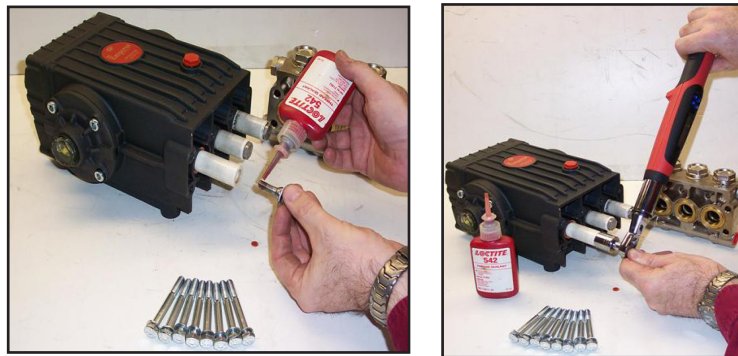

Figure 5-10. Install O-ring, Apply Sealant and Slide Plunger over Plunger Guide
18. Install new Teflon® back-up ring and O-ring on the plunger bolt. Apply a film of O-ring grease on the outside of the O-ring (see Figure 5-10).
19. Apply removable anaerobic thread sealant (Loctite® 542) to the threads of the plunger bolt, carefully pressing the plunger bolt into ceramic plunger (see Figure 5-10).
20. Slide new ceramic plunger over the plunger guide (see Figure 5-10).